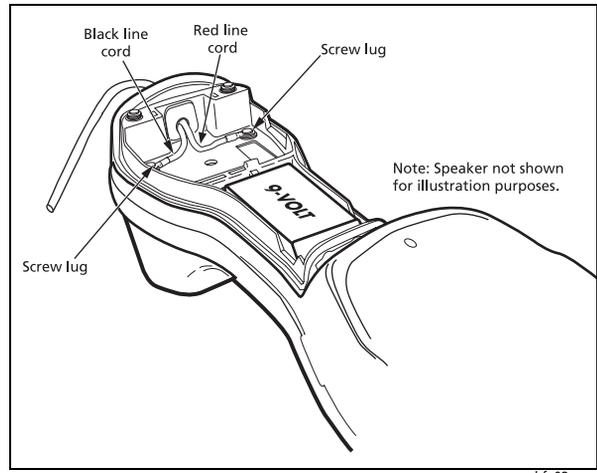

Figure 8. Removal/Installation of Line Cord Screw Lugs
- 6 Slip the line cord screw lugs (see Figure 8) out through the hole in the end of the housing.
- 2 Fasten the red wire lug to the PCB (Ring) with screw and washer (see Figure 8).
- 3 Fasten the black wire lug to the PCB (Tip) with screw and washer (see Figure 8).